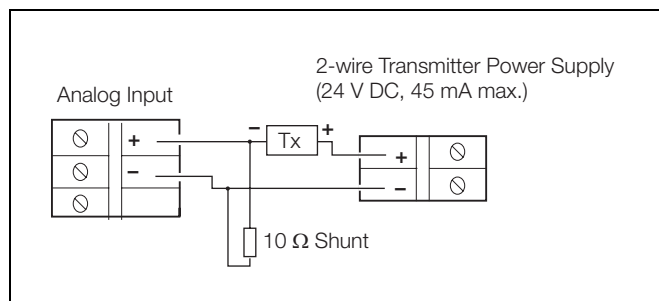

Fig. 5.7 Transmitter Power Supply
5.4.4 Transmitter Power Supply – Fig. 5.7